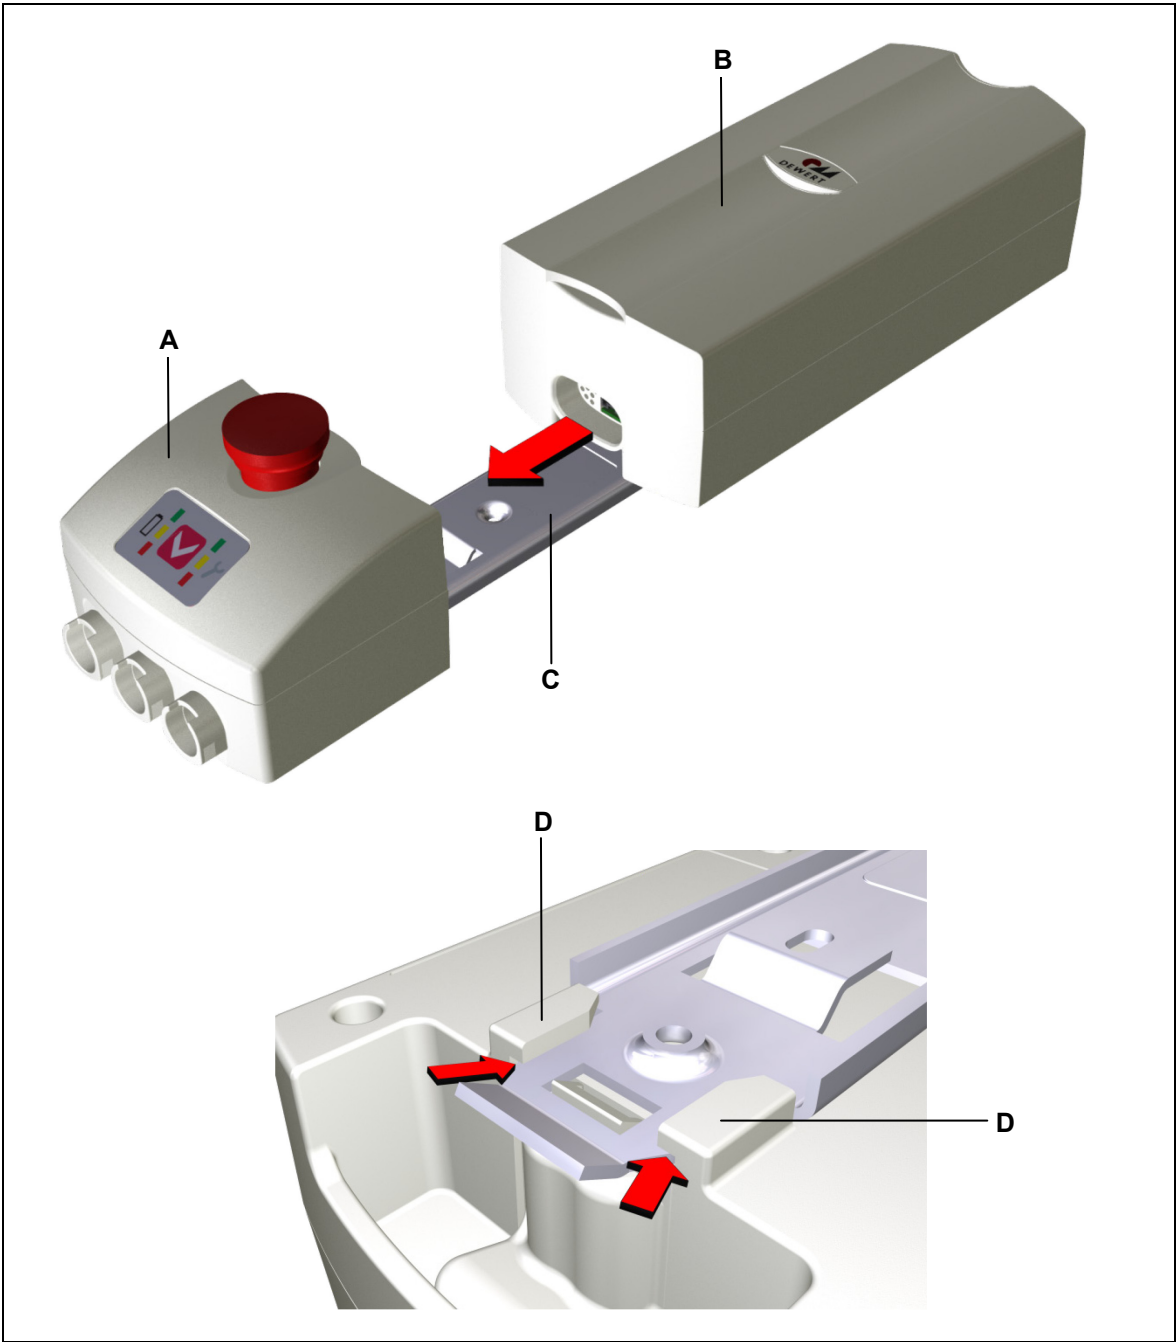

Figure 10 Inserting the ACCU in the CONTROL
- 3 Slide the ACCU on the mounting rail (as shown in Figure 10) until it clicks into place. The housing guide tabs (**D**) must enclose the mounting rail to ensure a tight fit.